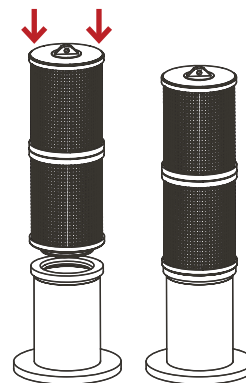

Figure 15.
5. Wiggle and press the cartridge down while holding around the circumference with a little pressure because the cartridge O-ring is designed to fit tightly to ensure a better seal, Figure 15.